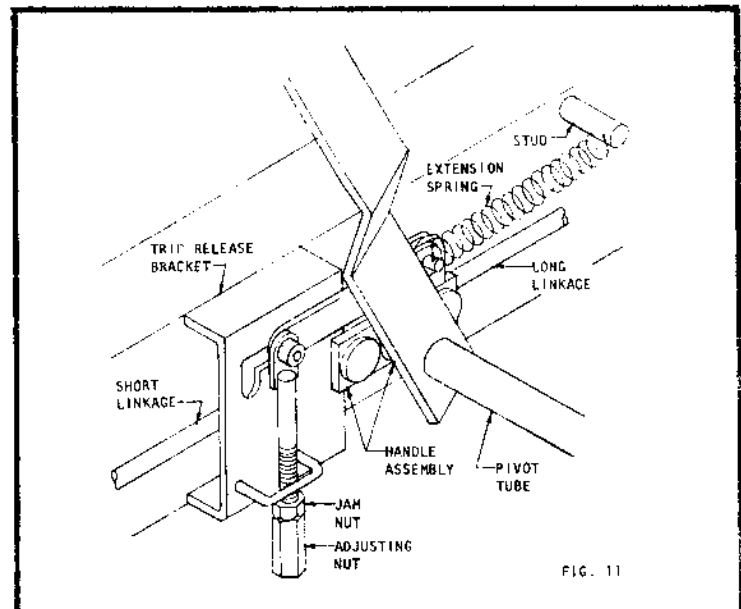

FIG. 11
49. Install trip release linkage between pivot handle upper hole and trip release bracket (See Fig. 11).
53. Install extension spring between handle assembly and stud on cross tube (See Fig. 11).